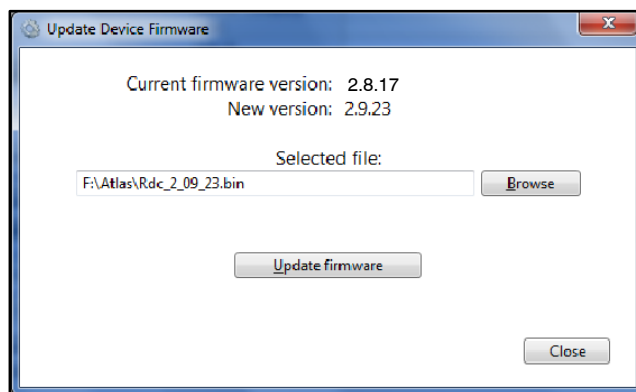

Figure 3-17 Update Device Firmware Screen
7. The Update Device Firmware screen displays the current version number, new version number, and filename of the selected firmware file. See Figure 3-17. If all of the information is correct, click Update Firmware.